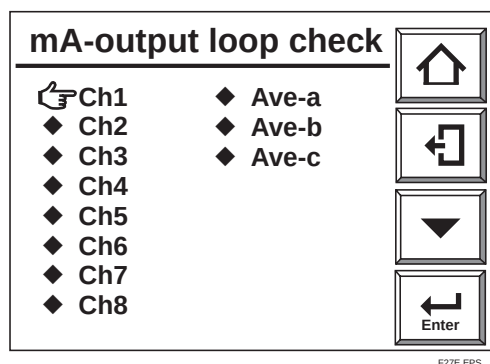

Fig. 7.17 Analog output select
- 4) The "mA-output loop check" channel-select display appears (Fig. 7.17).